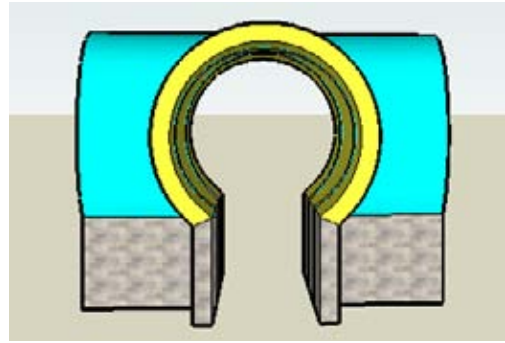

Figure 3-13
3. To easily cut through the first passageway, orbit to a view like the one in Figure 3-13 and use a right-to-left selection window within the passageway to select all faces in and behind the selection window, going straight back. Then press the Delete key to erase the selected faces, and you can see straight through. Do the same for the passageway in the other direction.